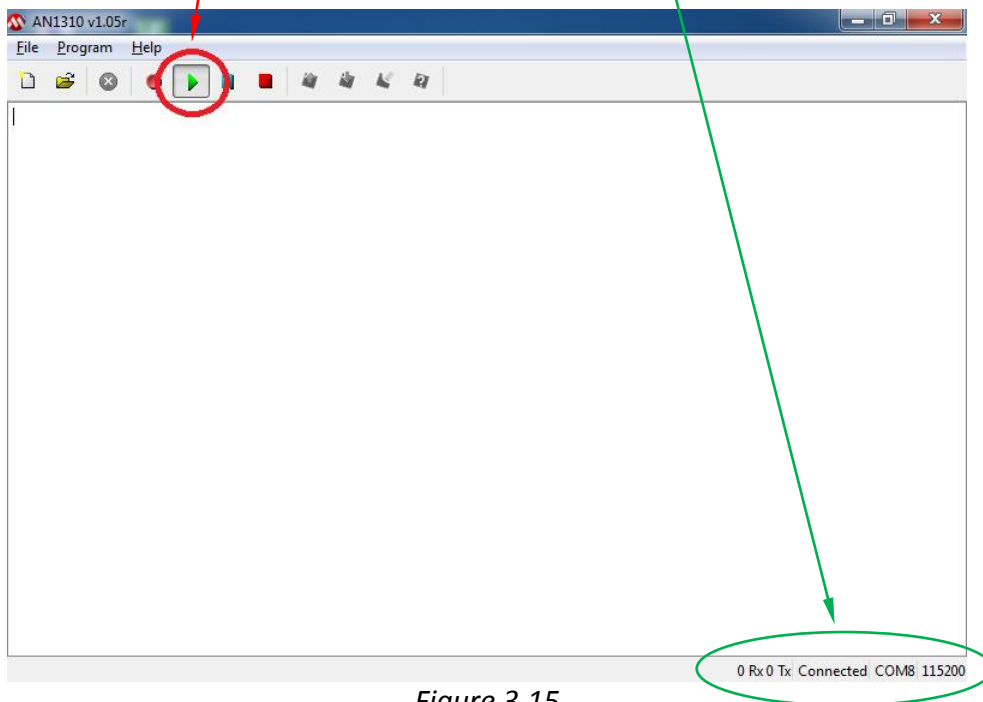

Figure 3.15
- 2. Press the green **Run Mode** button on the bootloader screen (Figure 3.15). At the bottom right hand side of the screen the **“Connected”** status will appear as well as the **COM Port number**.